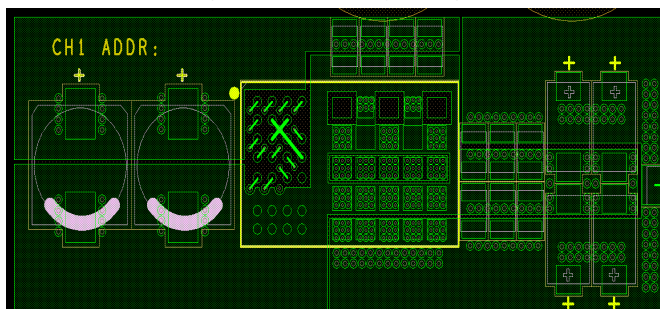

Figure 31a. Top layer (parallel)
- SGND 20-27 can be used along with GND to conduct current and thermal stress, see Figure 31a.